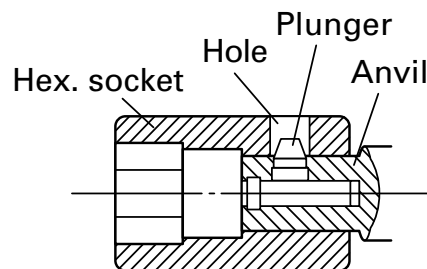

Fig. 2
7. Mounting the socket (Fig.2)